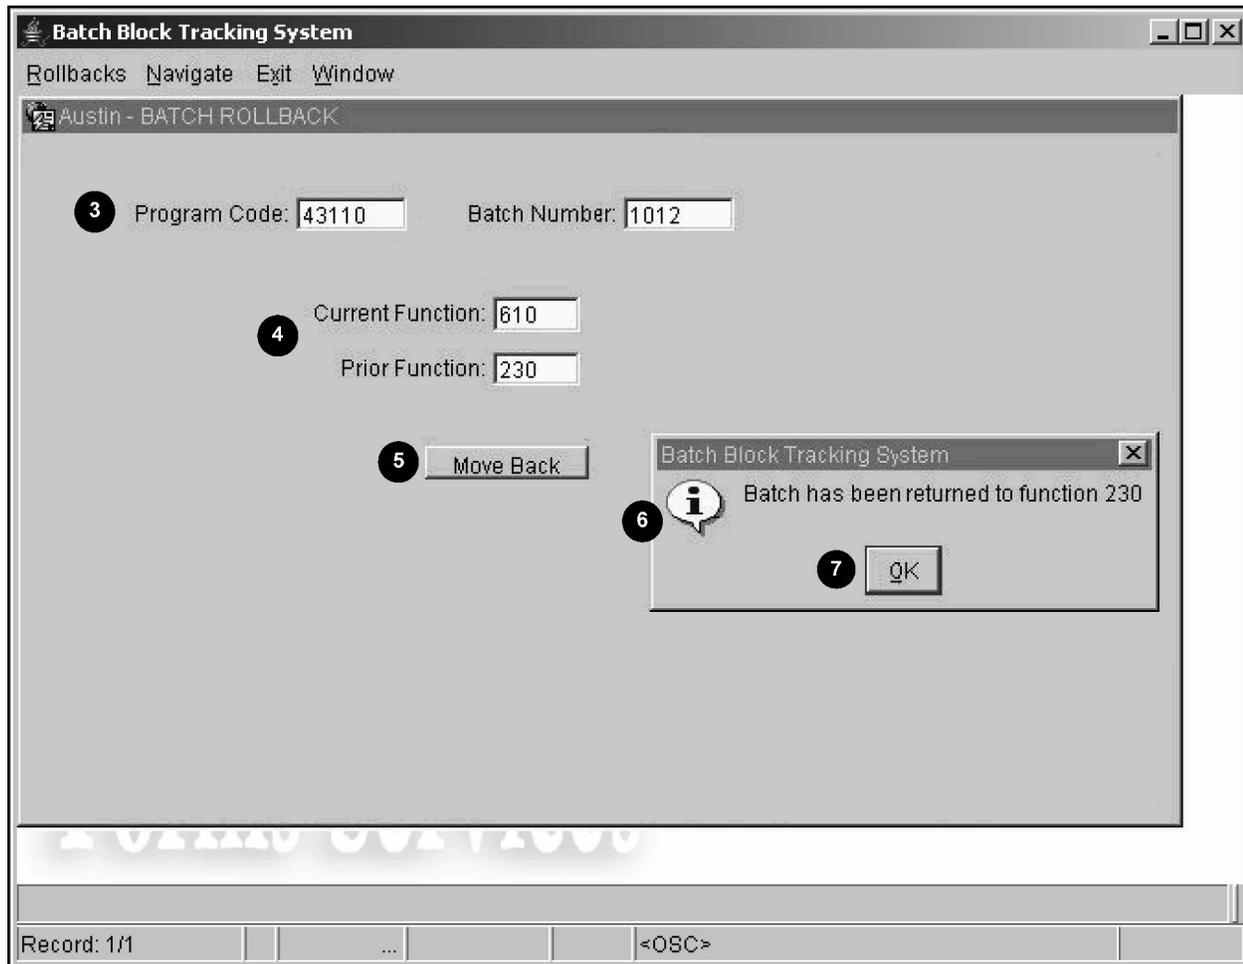

Figure 3.10.5-42 Batch Rollback Confirmation Message
- (2) "Navigate" to "Batch Rollback".
- (3) Enter the "Program Code" and "Batch Number" to be rolled back from the Form 9382 then press <ENTER>.
- (4) The current and prior function will appear on the screen then press <ENTER>.
- (5) Click on "Move Back".
- (6) A Batch Rollback confirmation message appears with, "Batch has been returned to Function 230". **See Figure 3.10.5-42**